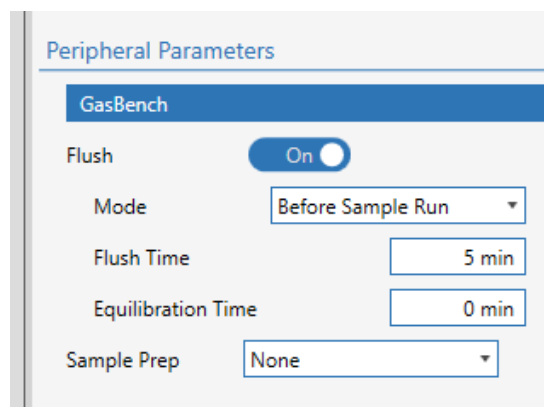

Figure 7-22. Flush mode before sample run
Flush	Flush turned off/on. See Figure 7-22. The flush time can be set.
1. Flushing before the timeline start for all sample positions in the sample list. Qtegra takes into account if a double needle or a single needle setup is used for flushing. See Figure 7-22.